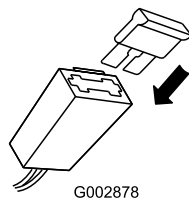

Figure 23
2. Insert the fuse into the fuse holder (Figure 23).